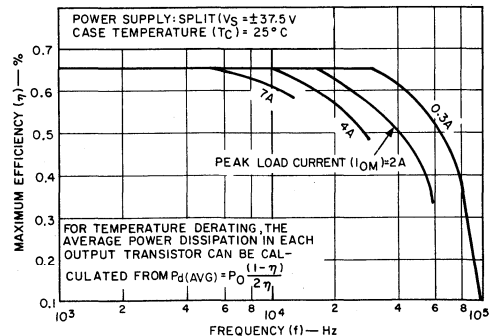

Fig. 3 — Maximum efficiency vs. frequency for type HC1000 with several values of peak load current.
The turn-off time is affected by increases in storage time which are caused by increased temperature and collector current in the area of concern. Fig. 3 shows maximum efficiency levels that can be expected over the frequency range under consideration, together with the effect of collector current. Each curve ends at the frequency at which the amplifier begins to dissipate excessive power at a case temperature of 25° C.
Fig. 3 can be used to determine the power-handling capability of the amplifier at high frequencies. For example, the following operating conditions may be assumed:
3. The efficiency used in step 1 must be derated with frequency. From Fig. 3, average efficiency  $\bar{\eta}$  is 65 per cent at 1 kHz and 57 per cent at 30 kHz for a peak load current of 2 amperes and a supply voltage of 37.5 volts. Therefore, the value for the conditions given above is calculated as follows: